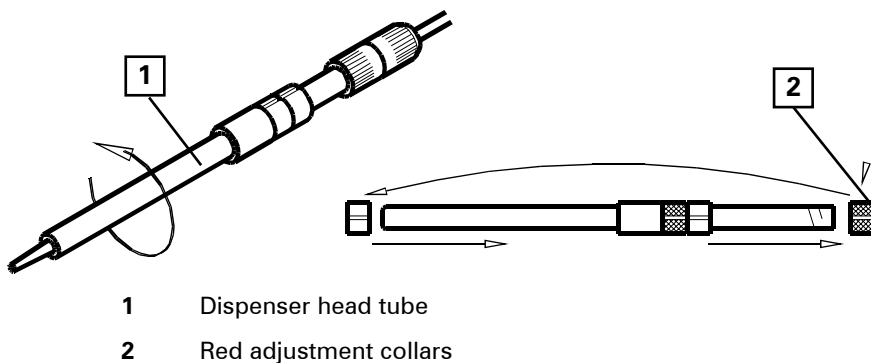

Fig. 4.5.4b Changing the position of the red adjustment collars
The dispenser head height is adjusted with red adjustment collars by moving them from either side of the fixed stopper collar (Fig. 4.5.4b).
1. Remove the dispenser head tube (Fig. 4.5.4b:1) from the brass tube lock.
2. The red adjustment collars (Fig. 4.5.4b:2) should be moved from one side of the fixed collar to the other to select the correct dispenser head height.